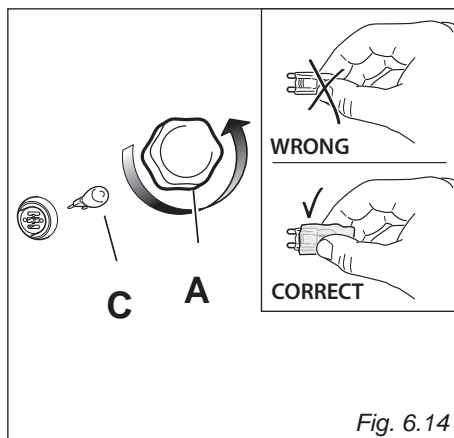

Fig. 6.14
- Remove the protective cover “A” (fig. 6.14).